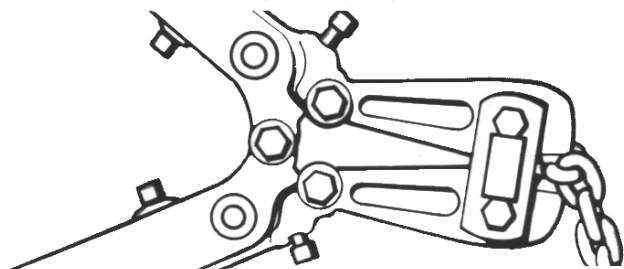

Fig 22. Cutting Chain with a Bolt Cutter
- Use a bolt cutter (Figure 22) similar to the H.K. Porter No. 0590MTC with special cutter jaws for cutting hardened chain (1” long cutting edge).